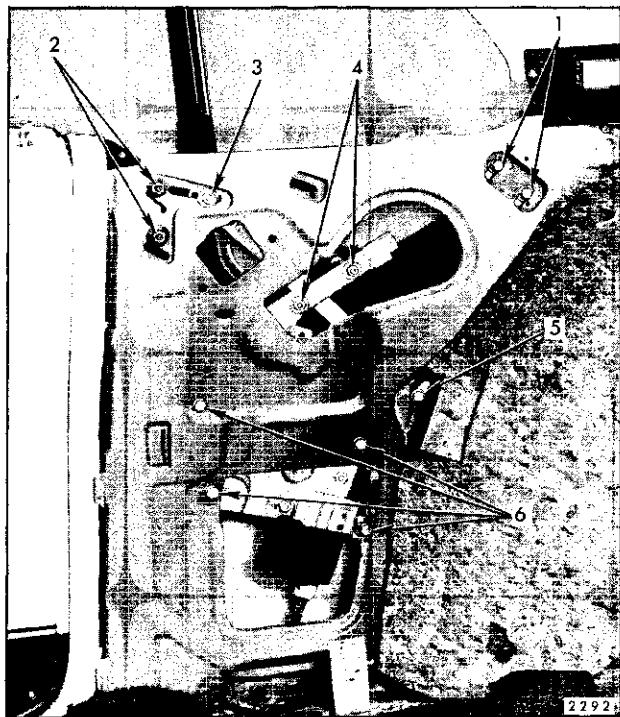

Fig. 7-22—Rear Quarter Hardware - "E" Body
1. With window in a full-up position, remove rear guide upper and lower attaching bolts. Disengage guide from roller on window assembly and remove guide through access hole (see Fig. 7-22).